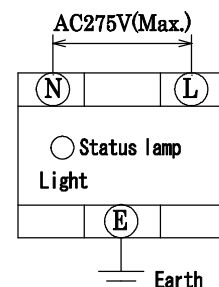

Fig.8 Lighting of the status lamp while applying electric power
- b) Confirm the status lamp turns on as shown in Fig.8 while applying electric power. When the status lamp turns off, replace the SPD. If the SPD fails, its status lamp turns off.
- c) If the insulation resistance between (N) or (L) terminal and (E) terminal is less than 10MΩ by 500V insulation tester, replace the SPD immediately.